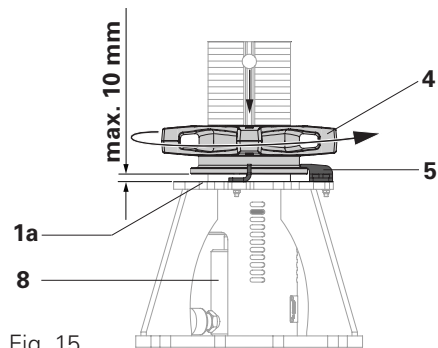

Fig. 15
- Lowering range per step is limited to max. 10 mm by means of the adjusting nut (4) and hold-down (5). (Fig. 15)
- The hold-down (5) is only a visual stop, it does not accommodate any forces.
2. Operate pump lever (11f) until the piston (8a) of the cylinder rests centrally and flush on the red pressure piece (3).
3. Operate the pump lever (11f) until the adjusting nut (4) is free (1 – 2 pump strokes).
4. Turn the adjusting nut (4) upwards by hand in a counterclockwise direction until the locking nut rests against the hold-down (5). (Fig. 15)
6. The cylinder retracts and is lowered by a max. of 10 mm together with the prop. (Fig. 15)
2. Turn adjusting nut (4) until it rests on the plate (1a). (Fig. 15)
3. Open the pump valve (11b) in a counterclockwise direction in order to relieve the load on the cylinder (8).